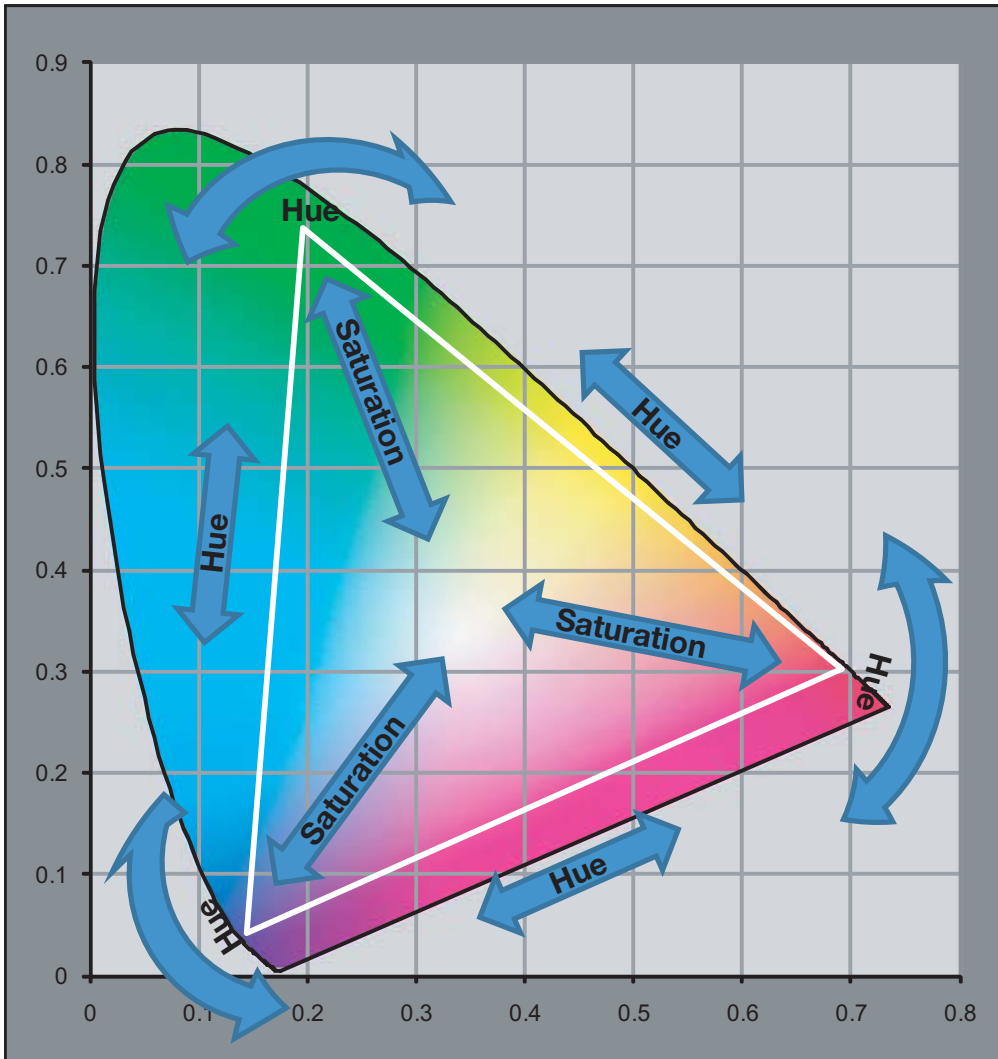

Figure 4-12. CIE 1931 Color Coordinate Diagram and Effect of PCE Hue and Saturation Controls
Each control operates only on the color specified. Surrounding colors are linearly interpolated based on their distance from each of these colors. In the CIE 1931 Yxy coordinate system (see Figure 4-12), Hue rotates the color coordinates around the white point, Saturation adjusts the coordinate's distance from white and Level adjusts the luminance (Y) of the color relative to white.